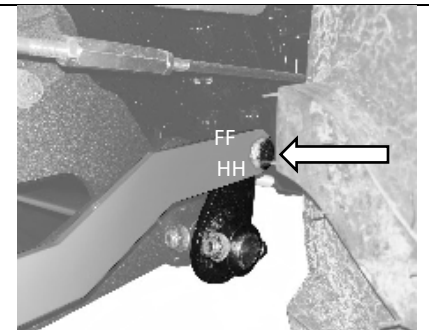

Figure 8B
7. Use bolt FF and washer HH to attach the rear portion to the Deck Indicator as shown in figure 8B. Tighten the nut enough to be snug, but loose enough to pivot.